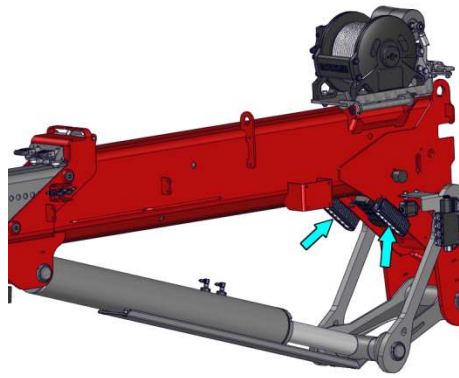

Figure: 28
- Pressing the work lights button on the remote control one more time switches off the two work lights on the main boom and switches on the two work lights on the jib (see figure 28).